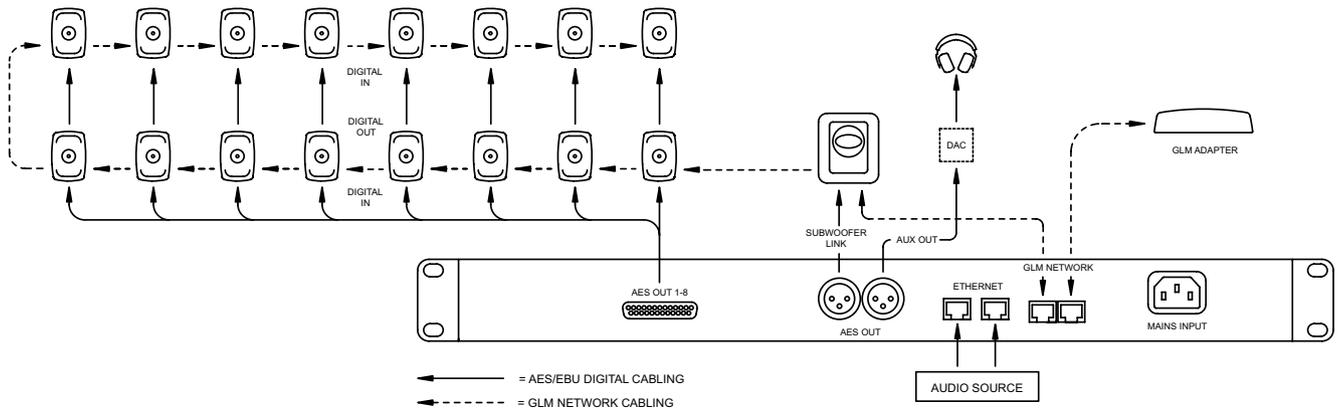

Figure 2. An example monitoring system connected with the 9401A interface
- Connect CAT 5 (RJ45) GLM network cables between the 9401A, every monitor and subwoofer. Finally, connect to the GLM Adapter device (see Figure 2). The connection order of the other devices is not important. Connect the GLM Adapter device to your computer via USB.